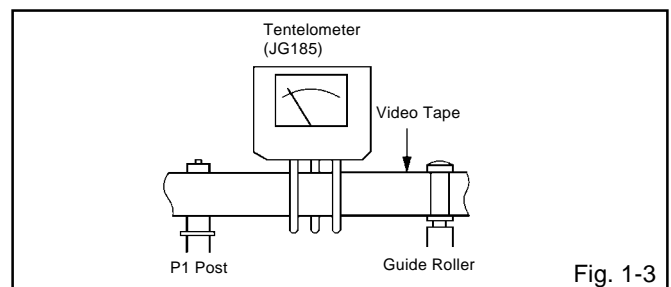

Fig. 1-3
- Install the tentelometer (JG185) as shown in **Fig. 1-3**. Confirm that the meter indicates  $20 \pm 2\text{gf}$  in the beginning of playback.